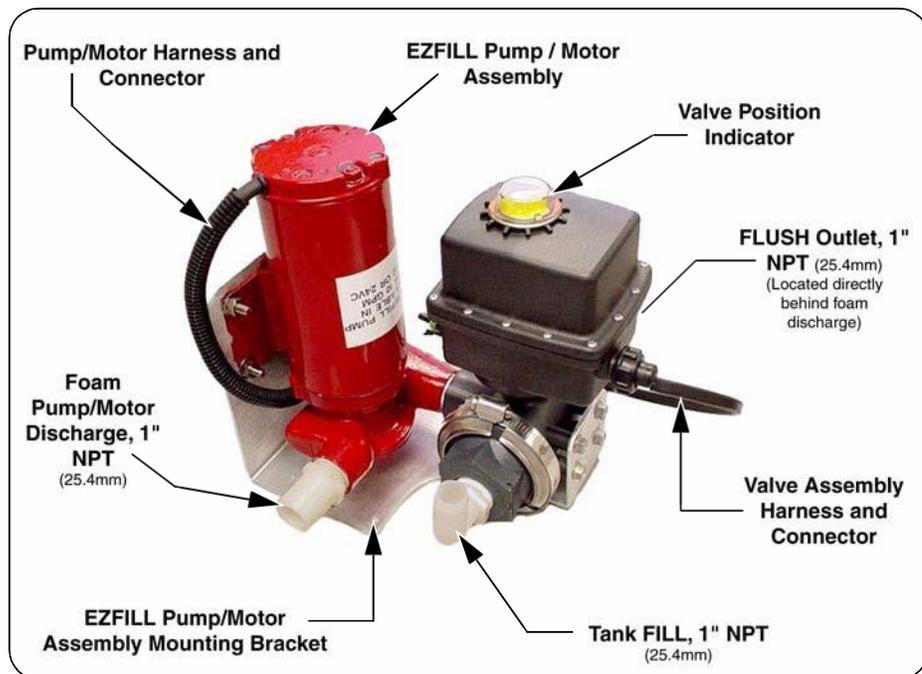

Figure 3-1: Three-Position Valve Plumbing, Single Tank
(See Figure 3-1: 'Three-Position Valve Plumbing, Single Tank.')
4. Install the SUCTION/FILL quick disconnect adapter and hardware. The adapter should be located in a convenient location on the operator’s panel. (See Figure 3-1: ‘Three-Position Valve Plumbing, Single Tank’ on page 11.)
7. Foam FILL hose connection between 3-position valve port and the BOTTOM of the foam tank (Tank “A”). (See Figure 3-1: ‘Three-Position Valve Plumbing, Single Tank’ on page 11.) The foam tank fill hose must be plumbed to the bottom of the tank to prevent “foaming” of the concentrate.
8. Flush discharge hose between the 3-position valve FLUSH port and appropriate ground container (5 gallon/19 liter pail). (See Figure 3-1: ‘Three-Position Valve Plumbing, Single Tank’ on page 11.)